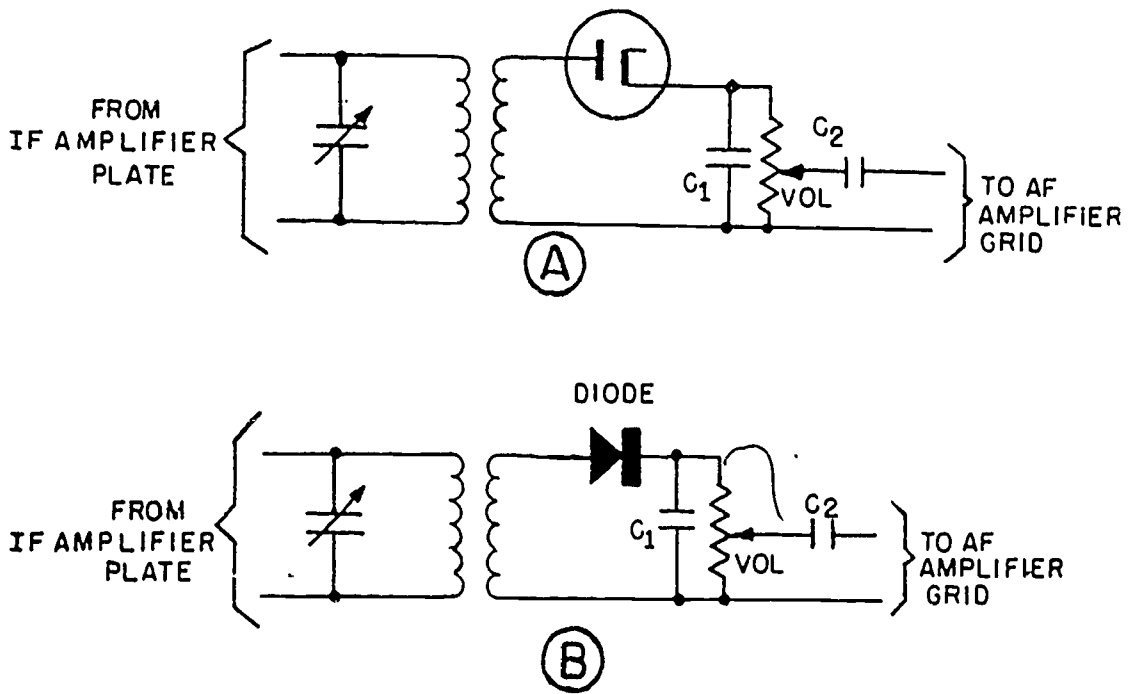

Figure 1-9. Simple diode detector circuits.
- (1) A simple electron-tube diode detector circuit is shown in A of figure 1-9. The ac signal from the intermediate frequency (IF) amplifier is rectified by the diode. The remaining IF carrier is filtered out of the circuit by capacitor C1. The final audio-frequency (AF) wave form is developed across the volume control and sent to the AF amplifier.
- (2) The circuit in B of figure 1-9 is similar to the circuit in A. The junction diode passes only the forward voltage (rectifies), and this portion of the IF carrier is again filtered out by C1 leaving the AF to be amplified for listening.